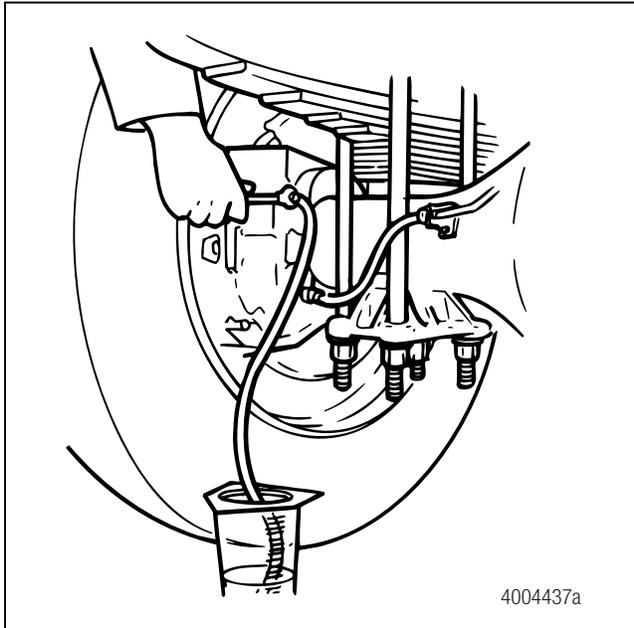

Figure 4.48
- C. Use a wrench to open the bleeder fitting screw to the torque value specified by the component manufacturer. Figure 4.48.